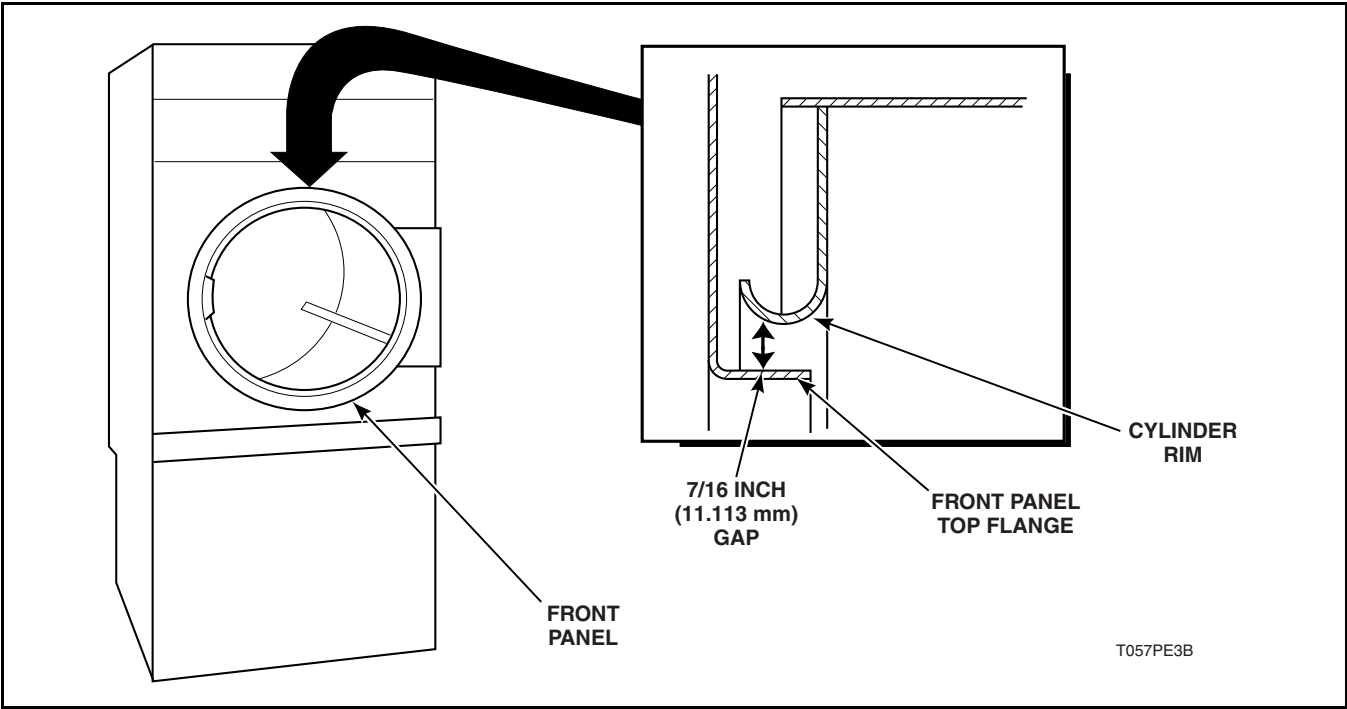

Figure 45
- Open loading door and check the gap between the center of the front panel top flange and the cylinder rim. Proper adjustment is when the gap is 7/16 inch (11 mm). Refer to *Figure 45*.